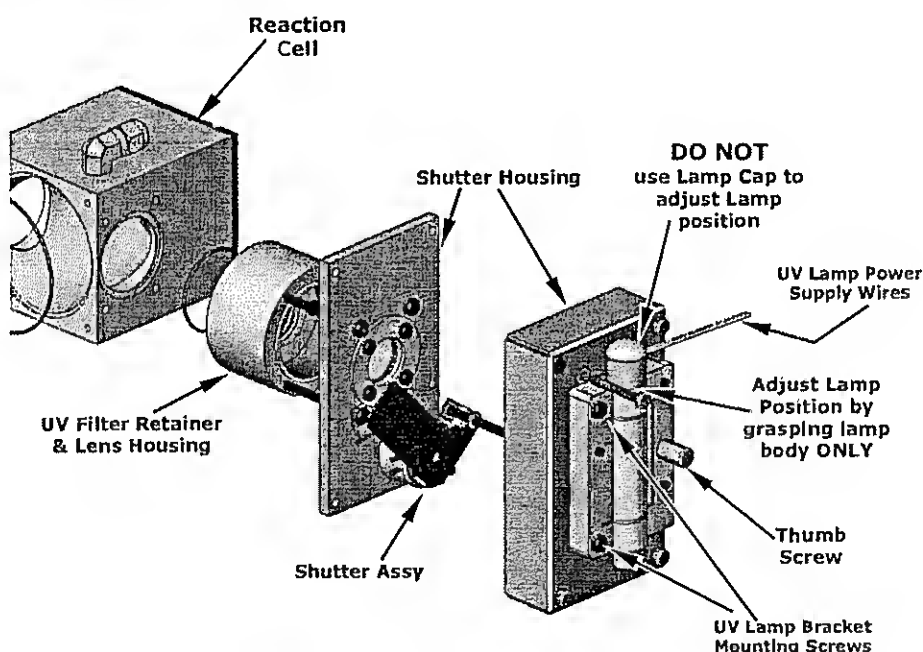

Figure 11-14: Shutter Assembly - Exploded View
2. Slightly loosen the large brass thumbscrew located on the shutter housing (see Figure 11-14) so that the lamp can be moved.
**DO NOT** grasp the UV lamp by its cap when changing its position (see Figure 11-14). Always grasp the main body of the lamp.
3. Loosen, but do not remove the two UV lamp bracket screws and the large brass thumbscrew located on the shutter housing (see Figure 11-14) so that the lamp can be moved.
**DO NOT grasp the UV lamp by its cap when changing its position (see Figure 11-14).